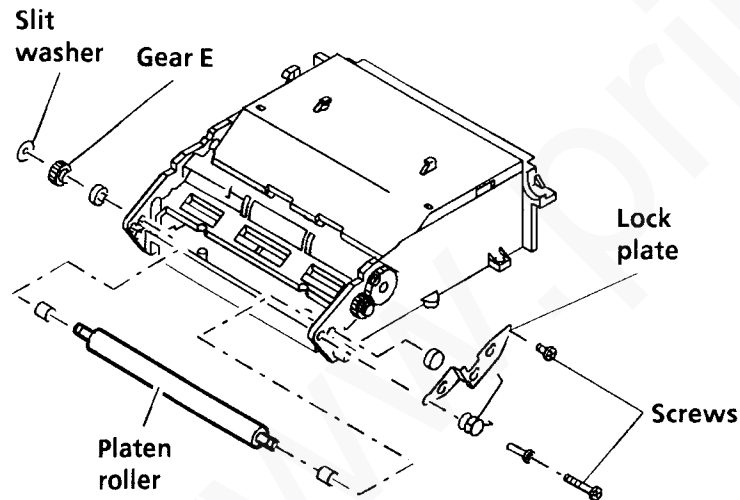

Figure 1. Platen roller
8. Remove two screws (Figure 1) from the lock plate.
10. Remove the slit washer (Figure 1) from the white platen roller.